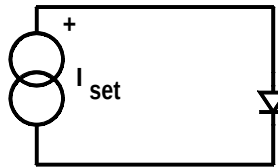

Figure 25.4: Problem 25.1.
- 25.1 A variable current source drives a current through a diode for which $I_0 = 10^{-10}$ and using the circuit shown in Figure 25.4. Calculate the voltages across the diode for currents of 0.1 mA and 5 mA through the diode. Assume that the diode bulk resistance is 0.5Ω .